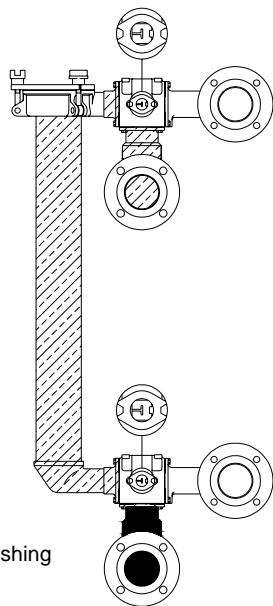

Figure 7: External Backwashing Drain Mode
In order to prevent the backwash water left in the body from diluting the downstream flow, the backwash supply butterfly valve can be used to help drain the filter body after the backwash process. After the 5-10 second backwash duration is complete as listed above, the backwash supply valve closes, isolating the filter body from the backwash flow, but leaving it open to the drain header (Figure 7). The vacuum breaker, installed on the backwash header, introduces air for quicker draining. After 3-5 seconds, the (2) 3-way valves are returned to the on stream mode.